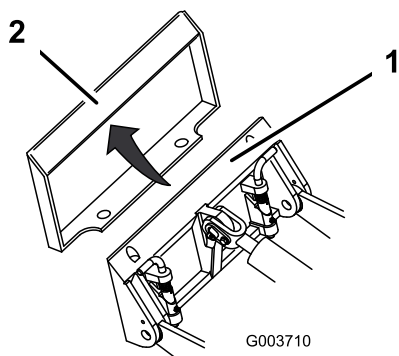

Figure 8
4. Position the mount plate into the upper lip of the attachment receiver plate (Figure 8).